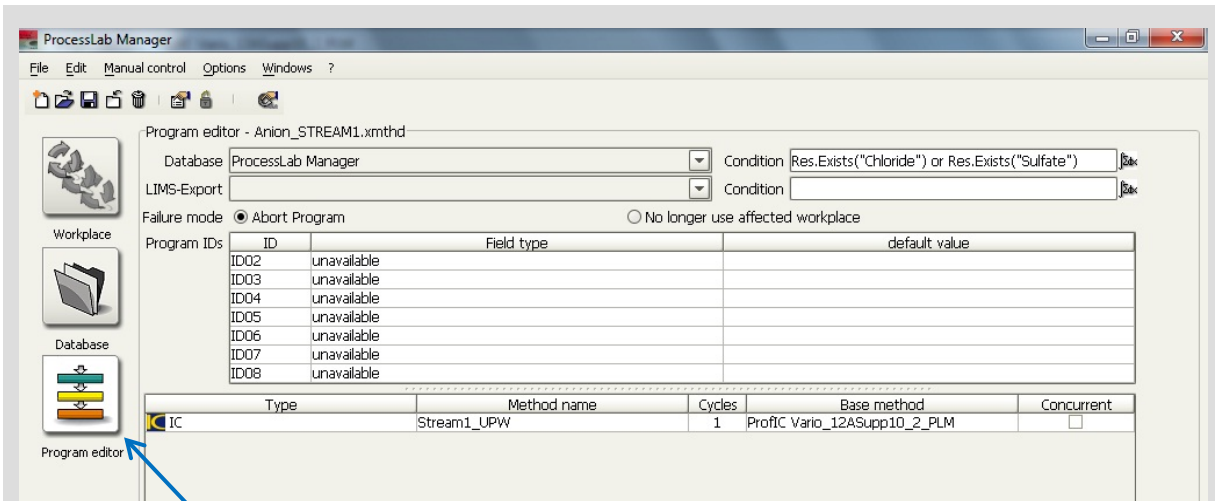

Figure 22: Program editor
- The different method types can be combined freely and processed sequentially or in parallel in the analysis program depending on the configuration (see Figure 22: Program editor).
- The analysis program is selected in the program editor as well (see Figure 22: Program editor).